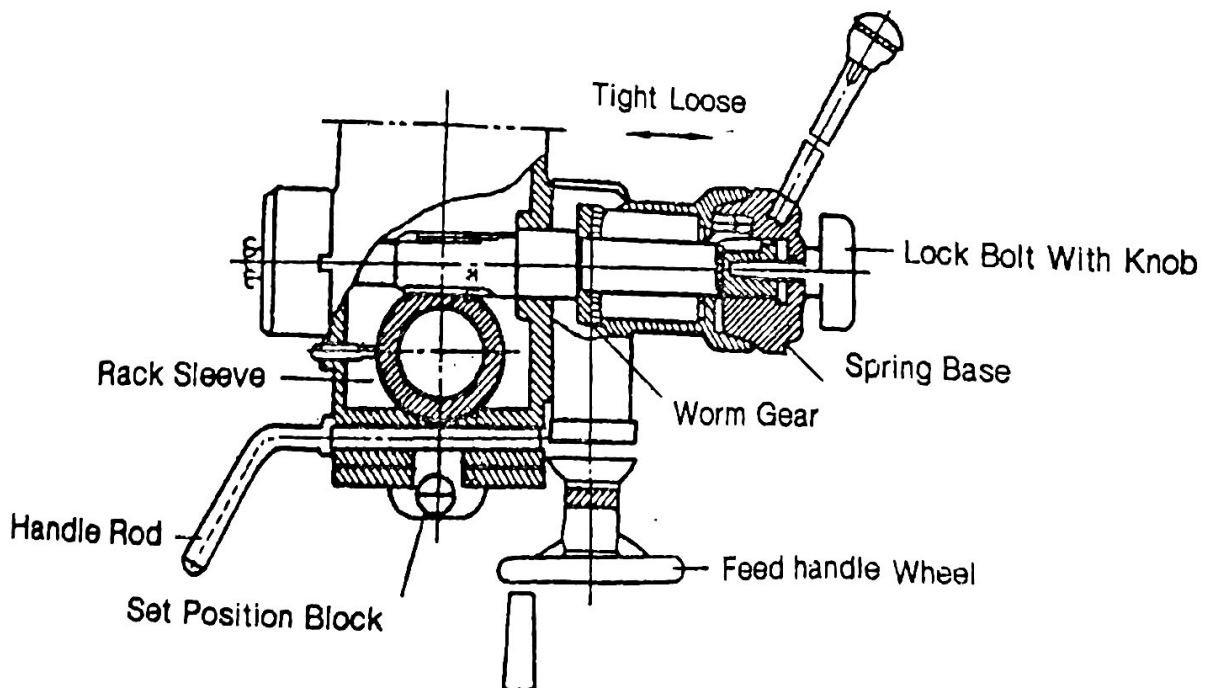

Figure 2
- (4) Preparing for Drilling (see fig. 2) (Except addition power feed system)
(5) Preparing for Milling (see fig 2) (Except addition power)